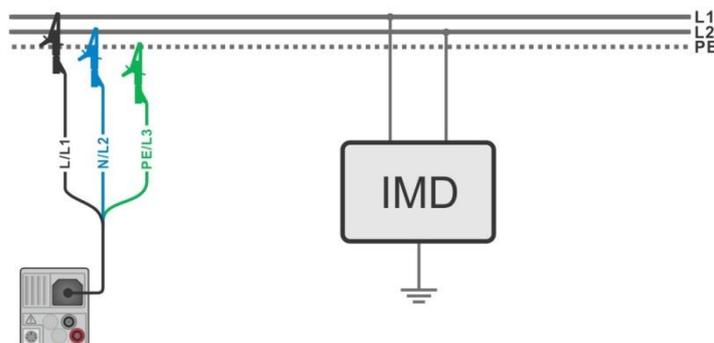
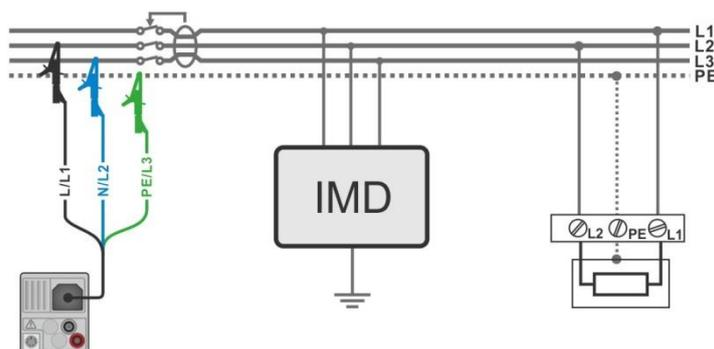

Figure 7.82: Measurement of highest First fault leakage current with 3-wire test lead
Figure 7.83: Measurement of First fault leakage current for RCD protected circuit with 3-wire test lead
- › Connect test leads to the object under test, see **Figure 7.82** and **Figure 7.83**.